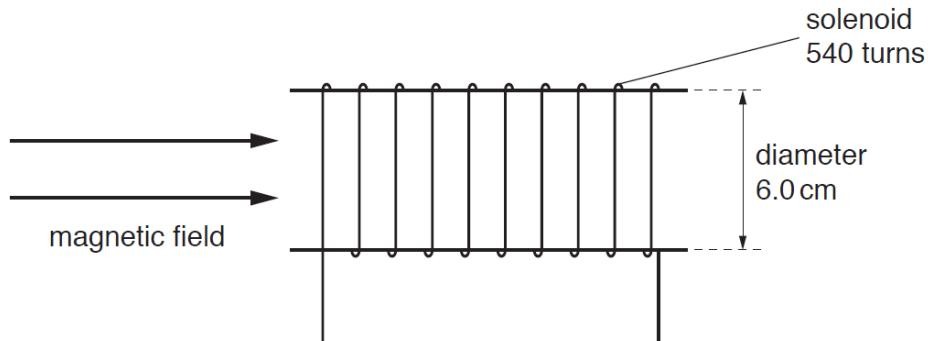

Fig. 5.1
- (b) A solenoid of diameter 6.0 cm and 540 turns is placed in a uniform magnetic field as shown in Fig. 5.1.